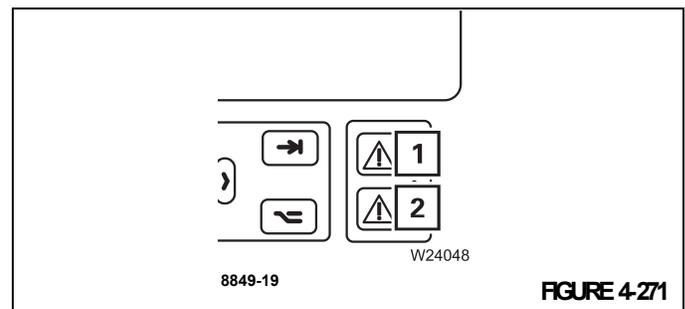

**FIGURE 4-270**
Check that lamps (1), (Figure 4-270) light up briefly after turning ON the ignition.